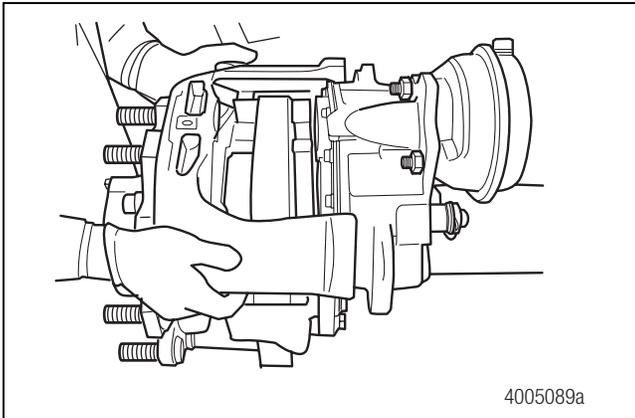

Figure 5.32
1. Position the bridge against the caliper housing assembly. Figure 5.32.